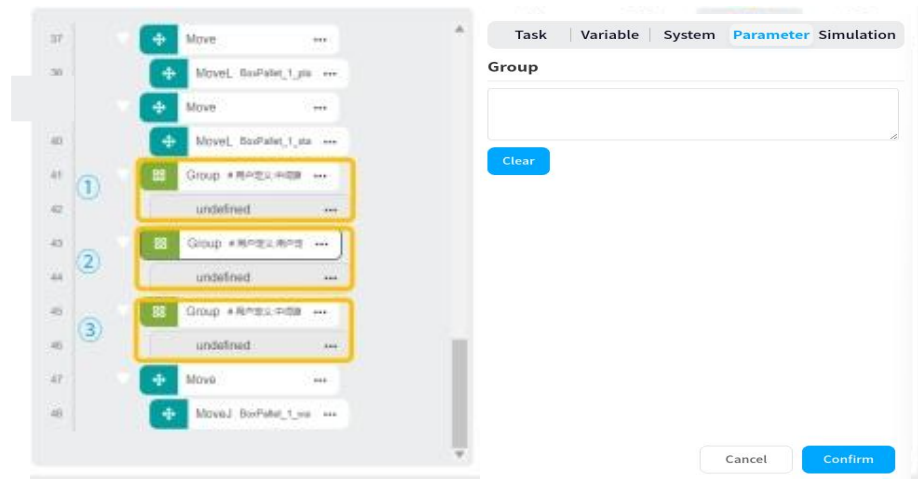

Figure 43
6、 Set the “Group custom lifting platform lowering” module, as shown in Figure 43.